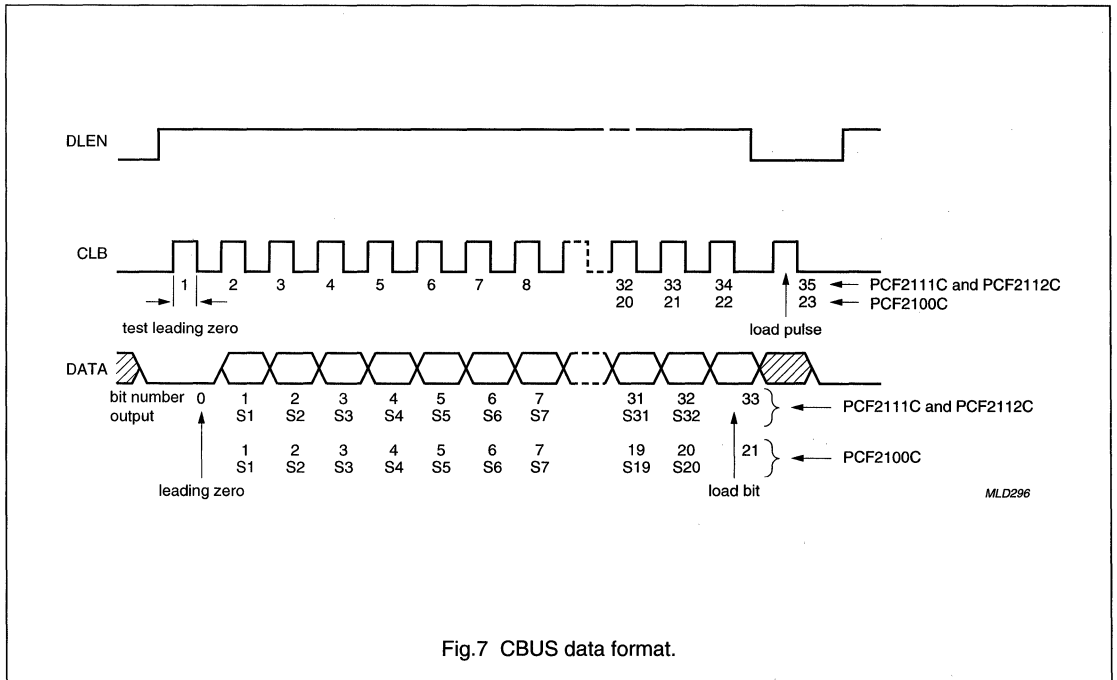

Fig.7 CBUS data format.
(1) Load pulse 23 for PCF2100C (see Fig.7).
(2) Load pulse 35 for PCF2111C and PCF2112C (see Fig.7).